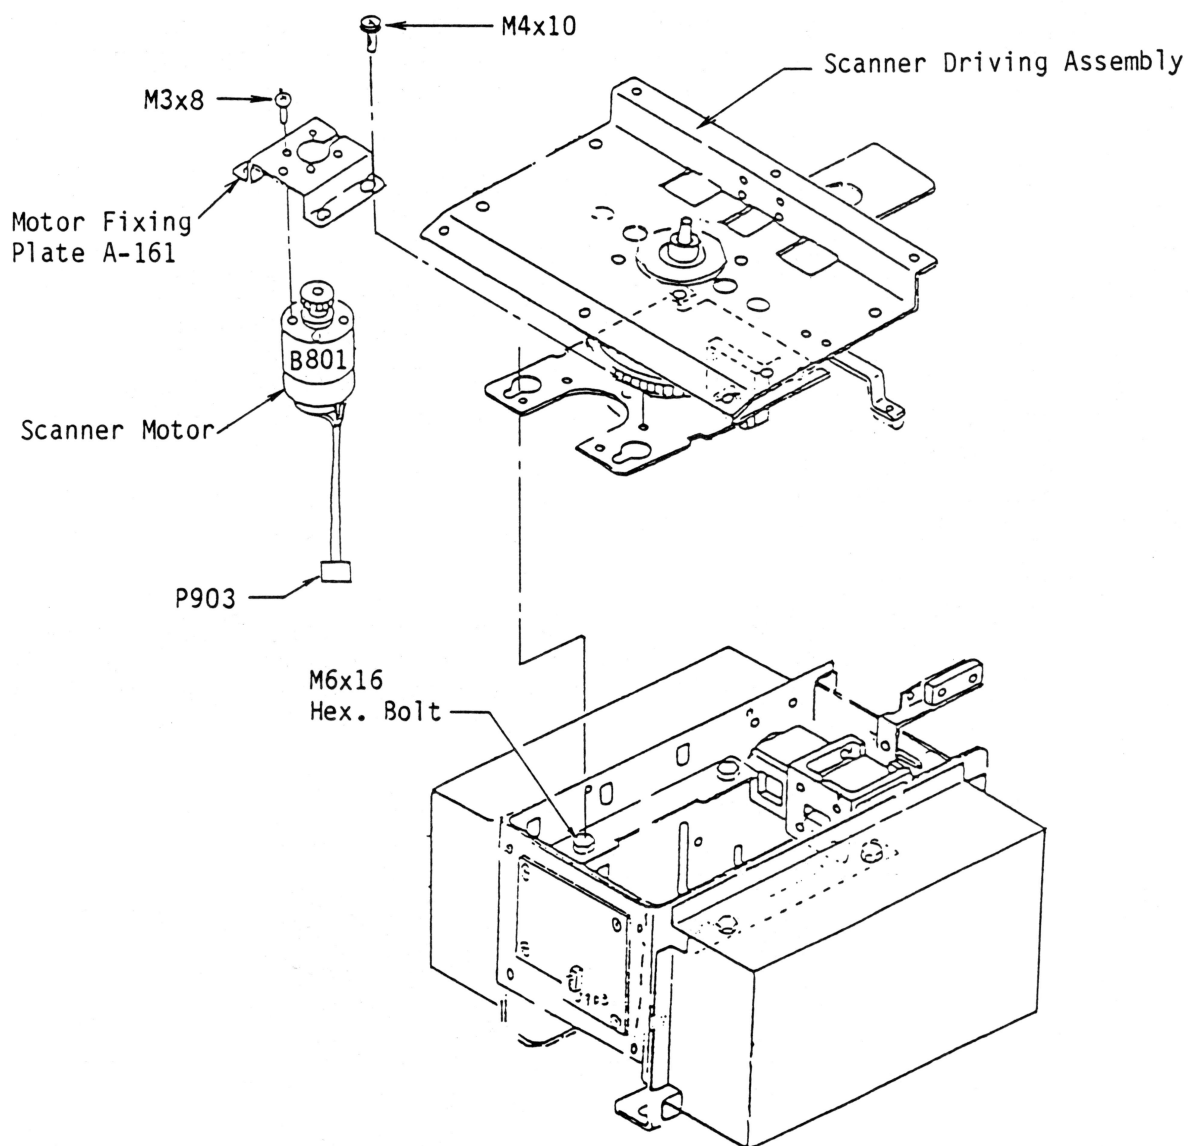

Fig.3-5
- 2) Loosen the four M4x10 washer head screws and remove the motor fixing plate A-161 on which the scanner motor is mounted. See Fig.3-5.
- 4) Loosen the four M6x16 hex. bolts, and detach the scanner driving assembly, referring to Fig.3-5.